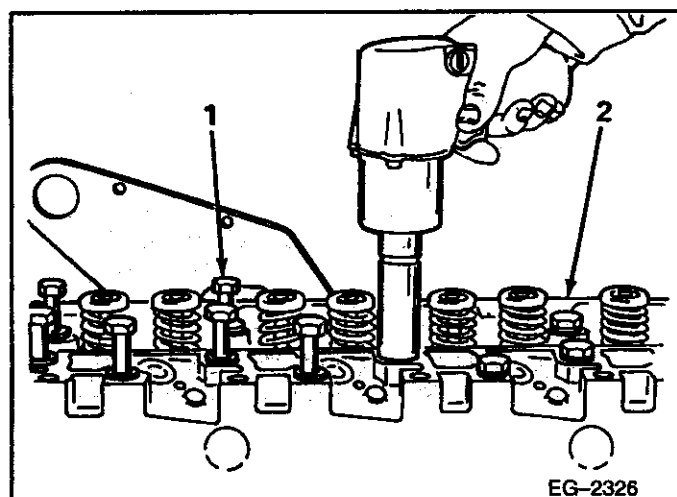

FIGURE 7-9
6. Remove remaining twenty (20) cylinder head bolts (short bolts) (FIGURE 7-9).